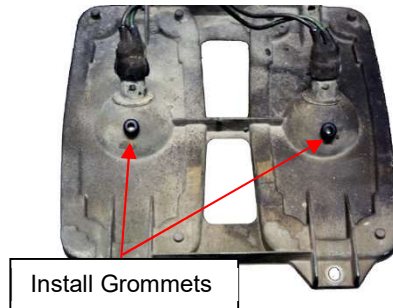

Figure 1
3. Drill 2 – 5/16" holes on the hemispherical surface near the bulb socket connectors. (See Figure 1) The exact location of each hole is not critical. Then install provided rubber grommet into the drilled hole. One method to simplify installation is to pinch grommet, insert protruding edge into the hole, then use a small flat blade screwdriver to push/work the remaining edge through the hole.